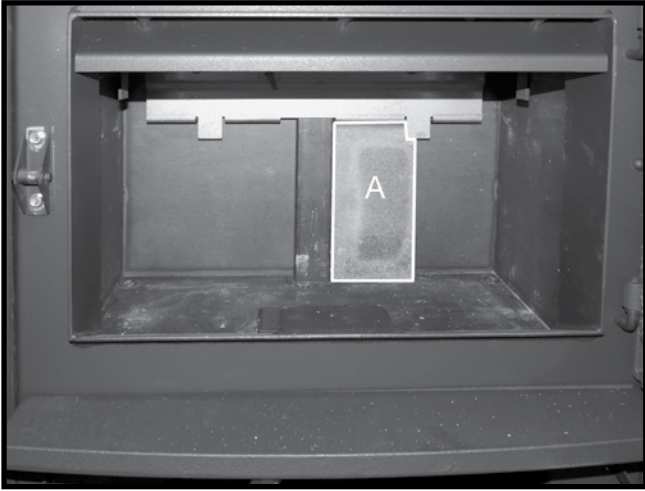

Figure 23: Installing the 1st of the rear wall firebricks.
1. Stand one "A" firebrick vertically behind the tab located on the brick rail. Slide the firebrick toward the center of the rear wall (Figure 23).